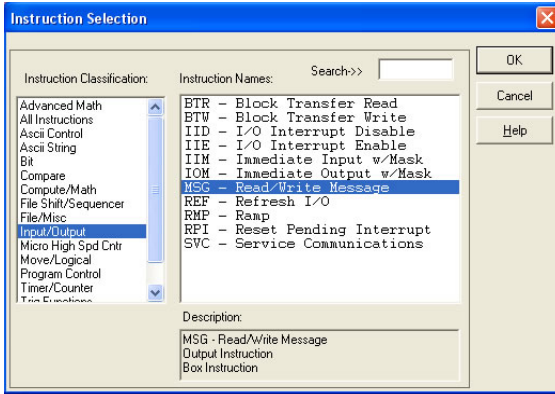

Figure 118: MSG Instruction Selection
d) Select the "MSG" instruction from the "Input/Output" classification, then click OK. Refer to Figure 118.